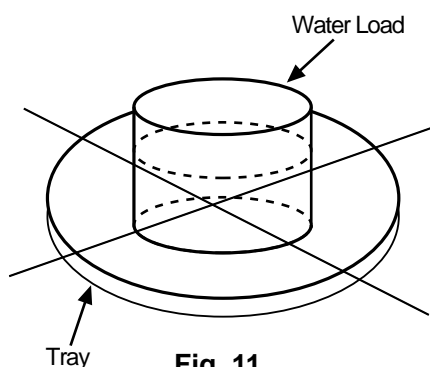

Fig. 11
- 3) The oven and the empty vessel are at ambient temperature prior to the start of the test. The initial temperature of the water is  $10 \pm 2^\circ\text{C}$  ( $50 \pm 3.6^\circ\text{F}$ ). It is measured immediately before the water is added to the vessel. After addition of the water to the vessel, the load is immediately placed on the center of the shelf which is in the lowest normal position. (Fig. 11).